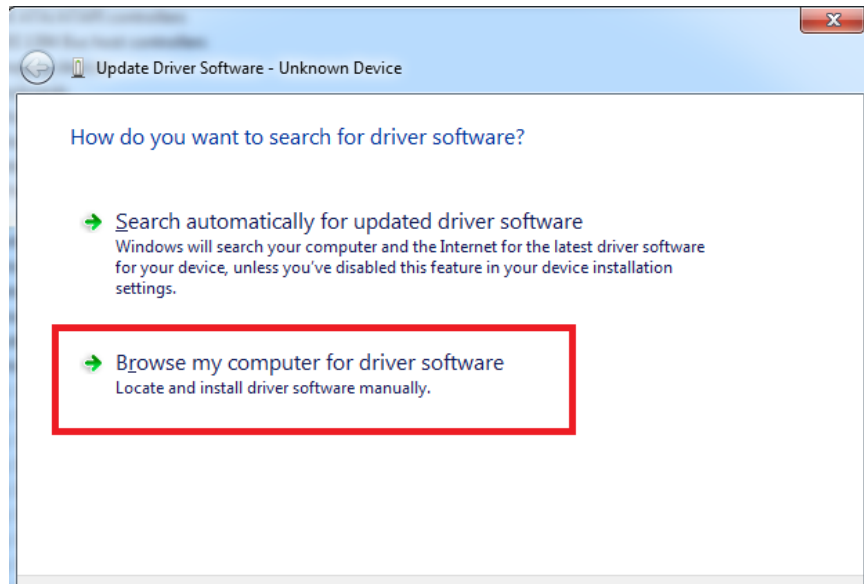

Fig. 4. Device driver software update message
- Press “Update driver software”; screen as in Fig. 4. should appear: